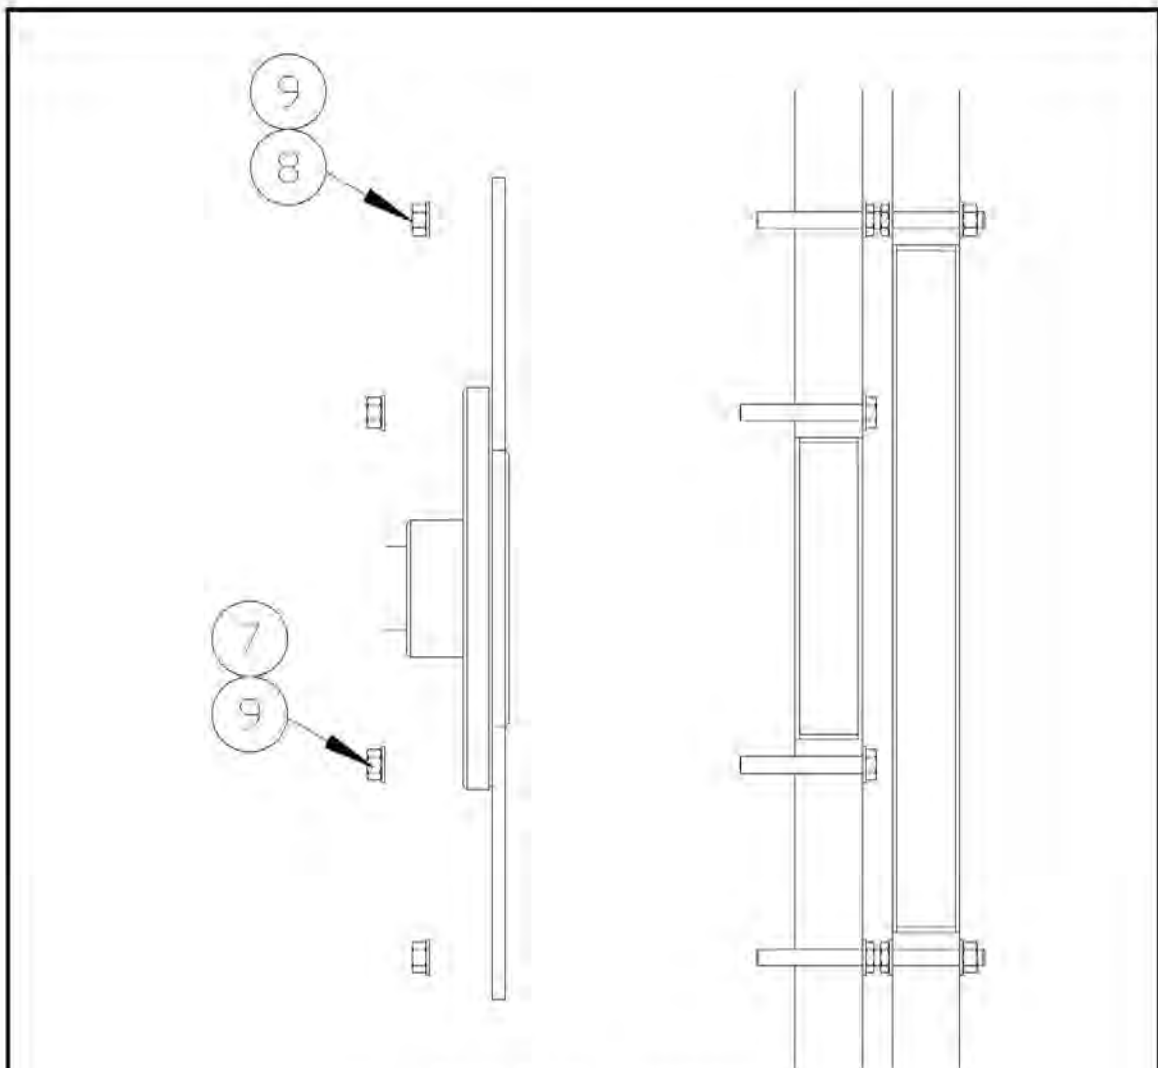

Figure 3 – Drum installation
4.2.2 Present the drum to the drive flange as shown in Figure 3, lining up the tie rods holes in the intermediate flange with those in the drive flange.